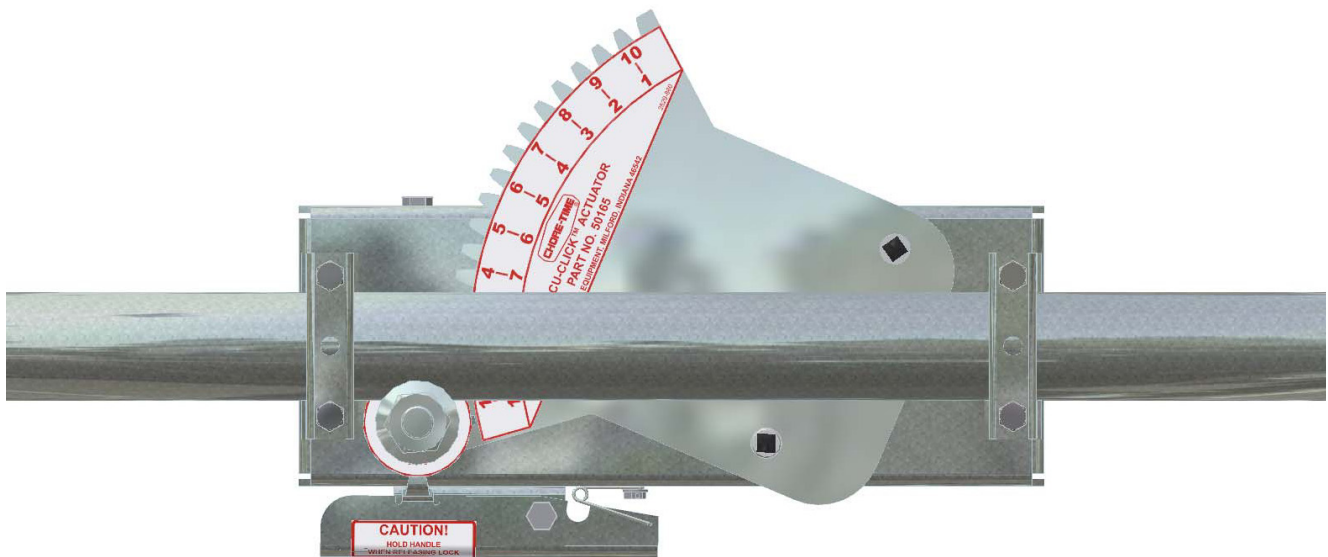

Figure 76. Actuator in Fully Open Brood Position
1. Once all actuators are installed operate actuators to the fully open brood position, see figure 76.